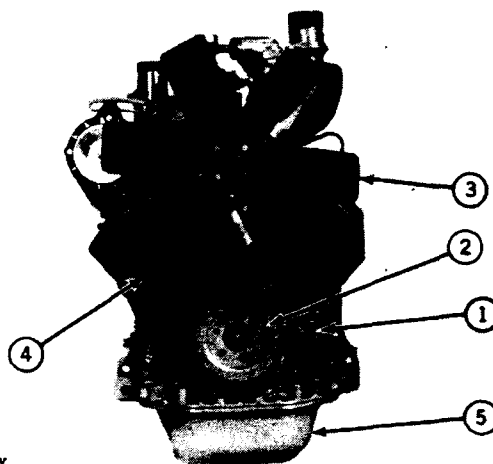

Fig. 23-Accessory Installation
Install timing gear cover (1, Fig. 23) (Group 0402), vibration damper (2) (Group 0401), fan and fan belt or belts (4) (Group 0429), and oil pan (5) (Group 0407).